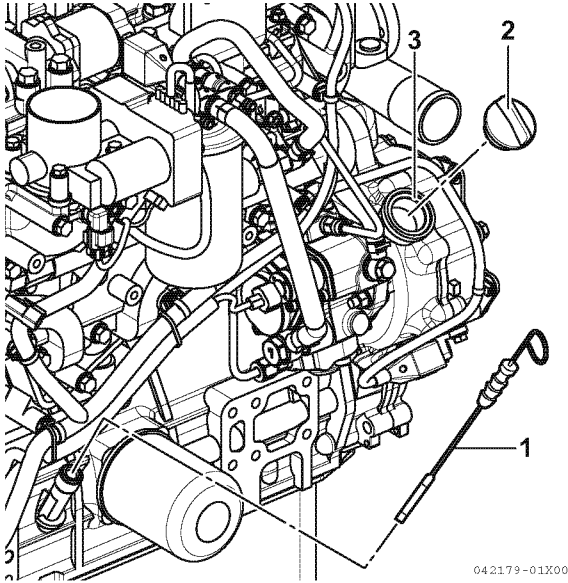

Figure 5-3
8. Add engine oil (**Figure 5-3, (3)**) as needed until the level is between the upper and lower lines shown on the dipstick (**Figure 5-3, (1)**).
9. Reinstall the oil filler cap (**Figure 5-3, (2)**). If any engine oil is spilled, wipe it away with a clean cloth.